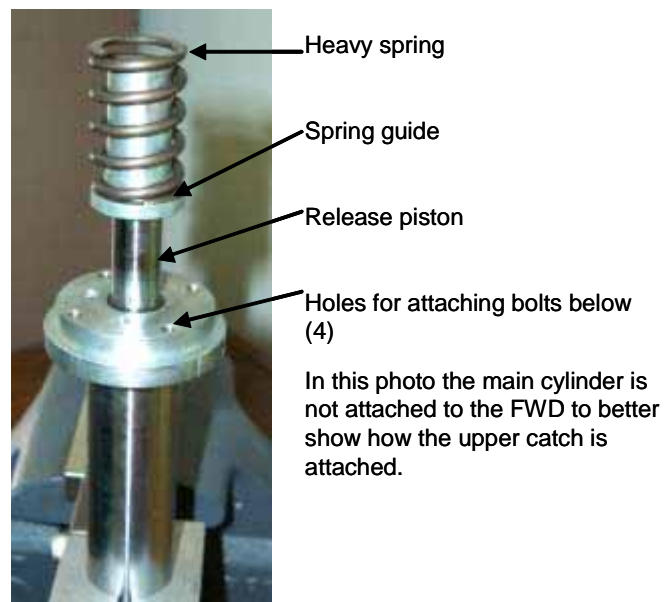

Figure 80. Guide flange and spring.
10. Attach the upper catch to the main cylinder; it takes time and practice to accomplish this. With the plunger shaft extended, place the spring guide on top of the plunger. Next, put the plunger spring on top of the spring guide (figure 80). In this picture, the main cylinder is not attached to the FWD to show how the upper catch is attached.